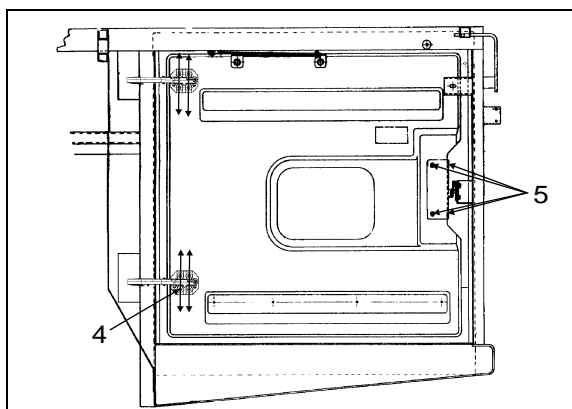

FIGURE 74: ENGINE COMPARTMENT R.H. DOOR
8. Loosen screws (4, Figure 74).